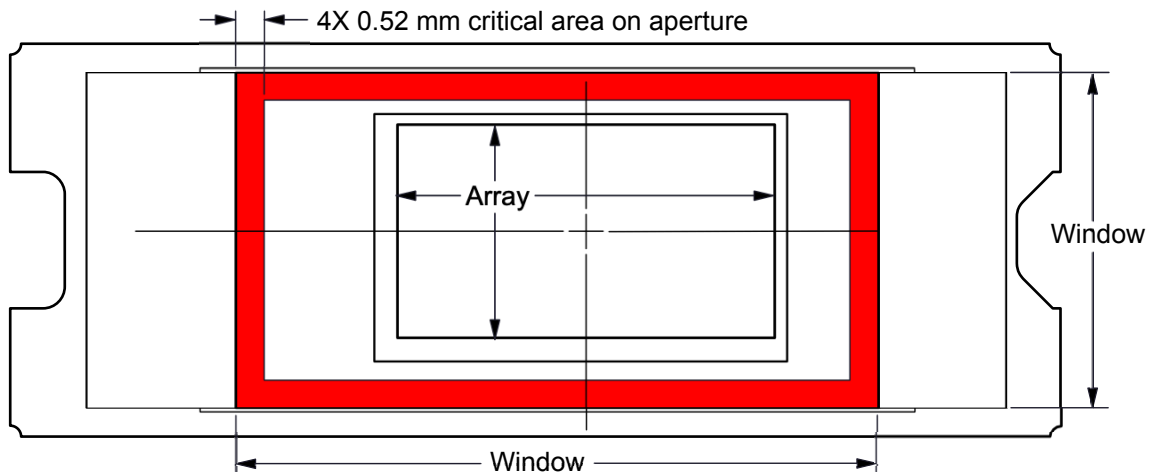

Figure 6-1. Illumination Overfill Diagram—Critical Area
- (10) Simultaneous exposure of the DMD to the maximum limits in Section 6.4 for temperature and UV illumination will reduce device lifetime.
- (11) The array temperature cannot be measured directly and must be computed analytically from the temperature measured at test point 1 (TP1) shown in Section 7.6 and the Package Thermal Resistance using Section 7.6.
- (12) Long-term is defined as the usable life of the device.
- (13) Short-term is the total cumulative time over the useful life of the device.
- (14) Temperature delta is the highest difference between the ceramic test point 1 (TP1) and anywhere on the window edge shown in Section 7.6. The window test points TP2 and TP3 shown in Section 7.6 are intended to result in the worst case delta temperature. If a particular application causes another point on the window edge to result in a larger delta temperature, that point should be used.
- (15) Window temperature is the highest temperature on the window edge shown in Section 7.6. The locations of thermal test points TP2 and TP3 in Section 7.6 are intended to measure the highest window edge temperature. If a particular application causes another point on the window edge to result in a higher temperature, that point should be used.
- (16) The average over time (including storage and operating) that the device is not in the elevated dew point temperature range.
- (17) Exposure to dew point temperatures in the elevated range during storage and operation should be limited to less than a total cumulative time of CT_{ELR}.
- (18) The maximum marginal ray angle of the incoming illumination light at any point in the micromirror array, including Pond of Micromirrors (POM), should not exceed 55 degrees from the normal to the device array plane. The device window aperture has not necessarily been designed to allow incoming light at higher maximum angles to pass to the micromirrors, and the device performance has not been tested nor qualified at angles exceeding this. Illumination light exceeding this angle outside the micromirror array (including POM) will contribute to thermal limitations described in this document, and may negatively affect lifetime.
- (19) The active area of the device is surrounded by an aperture on the inside of the DMD window surface that masks structures of the DMD device assembly from normal view. The window aperture is sized to anticipate several optical operating conditions. Overfill light directly illuminating the window aperture can create adverse imaging effects, and additional device heating leading to reduced device lifetime. Direct incident illumination should be prevented from striking the DMD window aperture.
- (20) Applies to the region in red in Figure 6-1, at the inside plane of the glass window where the physical aperture is located.